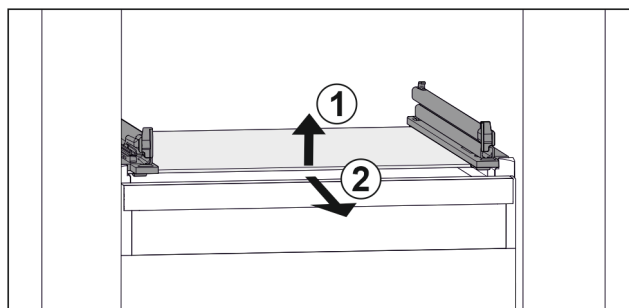

Fig. 65 Example illustration of glass shelf
- ▶ Lift glass shelf at the front. Fig. 65 (1)
- ▶ Take out glass shelf to the front. Fig. 65 (2)